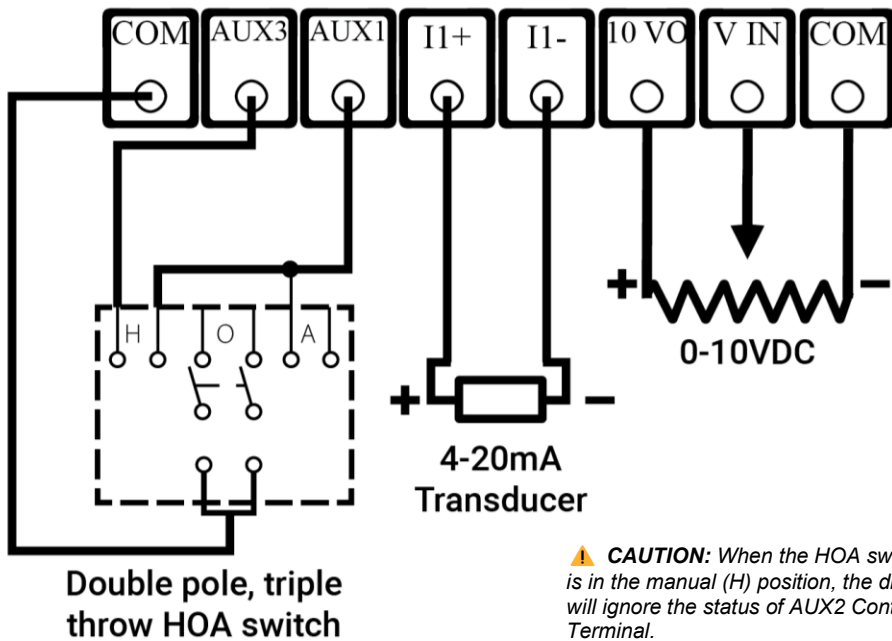

Figure 11 – Connections for PID Control with Potentiometer and HOA Switch
- Using the keypad, set parameter **1.3.1 SYSTEM CONFIG** to 7. See **Figure 11** and **Table 21** for details.